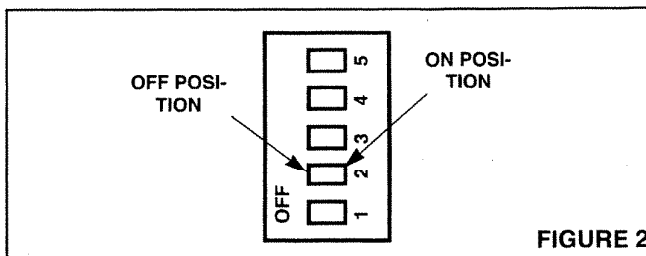

FIGURE 2
1. Refer to Figure 2. Locate the station code dip switch on the back of the remote control unit.